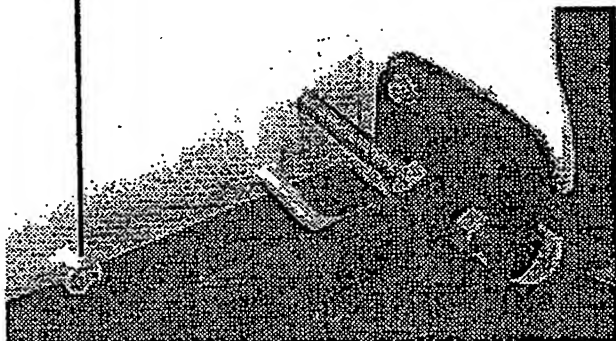

FIGURE 28
1. Remove the oil drain plug. See Figure 28, and drain the oil. Remove the oil cap to ensure a better flow.
1. With the engine stopped, unscrew and remove the old oil filter, see Figure 28.
To obtain proper chain tension, adjust the 4 tensioning nuts, (2 each side) to move the front axle forward or backwards. See Figure 28.